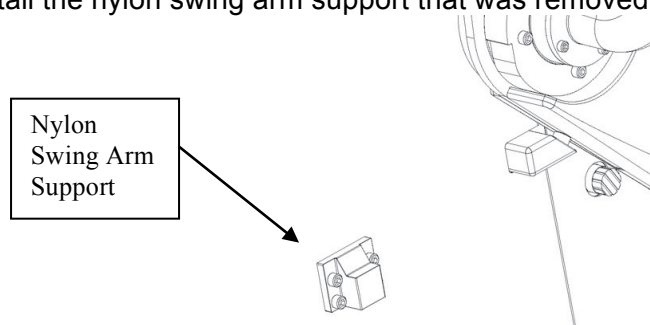

Figure 4: Nylon Swing Arm Support
12. When the swing arm is in its home position, it will rest on a nylon swing arm support. Use an Allen wrench and remove the four cap screws and the nylon swing arm support. See Figure 4.